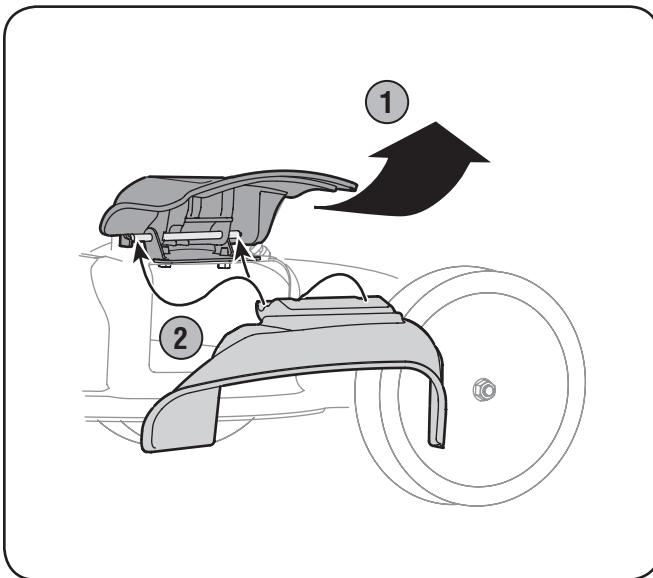

Figure 3-7
1. On the side of the mower, lift the mulching plug. See Figure 3-7.